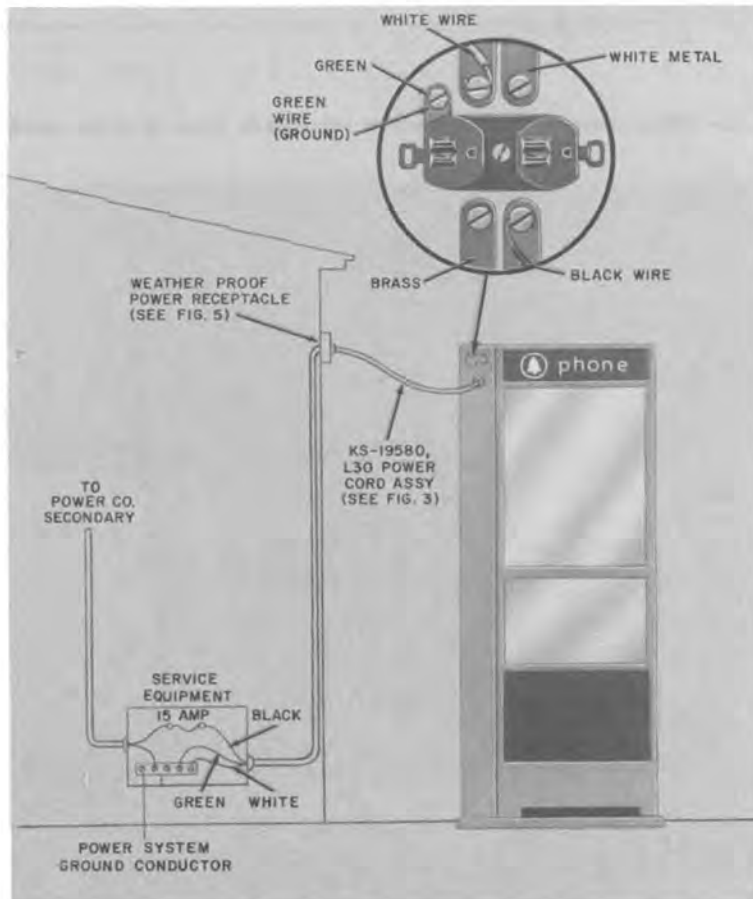

Fig. 11—3-Wire Extension of Branch Circuit to Booth By Means of Power Cord
8.05 Fig. 11 through 14 show various applications for extending branch circuit.